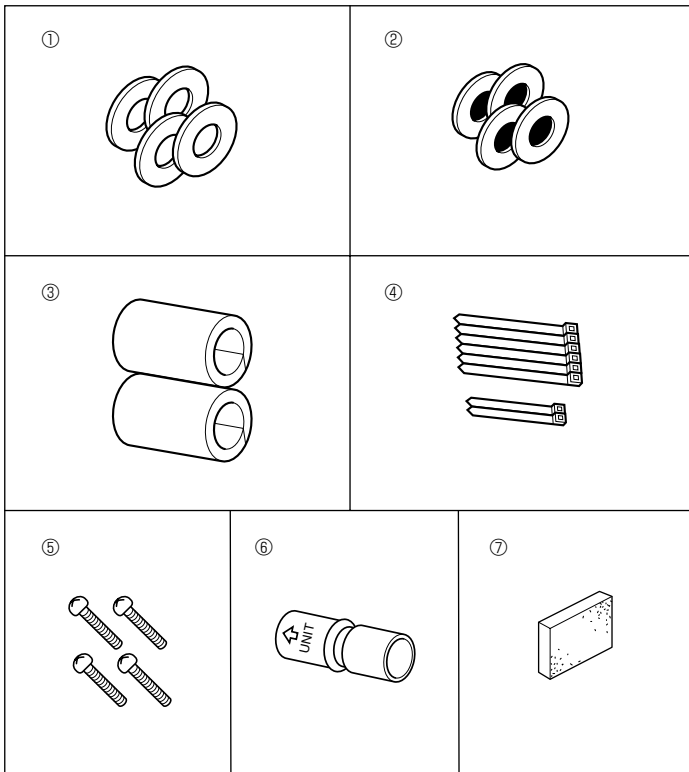

Fig. 2-1
**2.1. Check the indoor unit accessories (Fig. 2-1)**